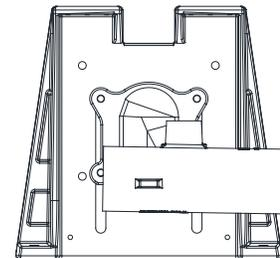

Figure 4a
- a. For fitting in the highest position, see Figure 4a.